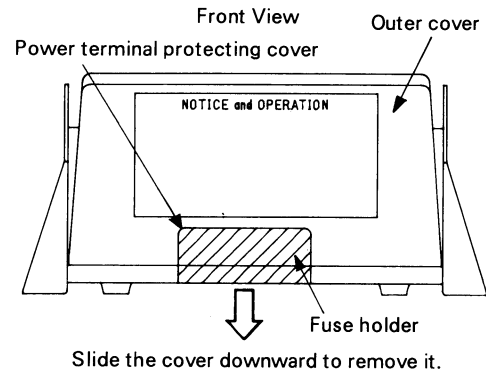
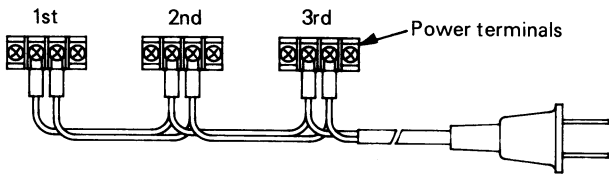

Figure 3-8
Figure 3-11
- (1) Remove the plug of the AC power cable for the battery charger from the convenience outlet.
- (2) Remove the power supply terminal protecting cover on the front of the battery charger as shown in Figure 3-8.
- (3) Remove the fuse from the fuse holder, and mount a new fuse. Use a 250V, 0.5A, $5.2 \times 20L$ fuse.
- (4) Put back the cover.
- (1) Remove the plug for the AC power supply cable for the battery charger.
- (2) Remove the power supply terminal protecting cover as shown in Figure 3-8.
- (4) Remove the outer cover. (See Figure 3-8.)
- (1) Determine the locations of battery chargers and the suitable length of cables for wiring.
- (2) Remove the power supply terminal protecting covers. (See Figure 3-8.)
- (3) It is not necessary to remove the attached power cables from the terminal boards.
- (4) According to the wiring diagram shown in Figure 3-11, cut and connect the attached power cables for the first two battery chargers. For easy work, the attached crimp-style terminals may be used. It is not necessary to cut the power cable of the remaining battery charger.
- (5) Put back the power terminal protecting cover.
- (6) Insert the plug of the power cable of the last battery charger into the AC convenience outlet.